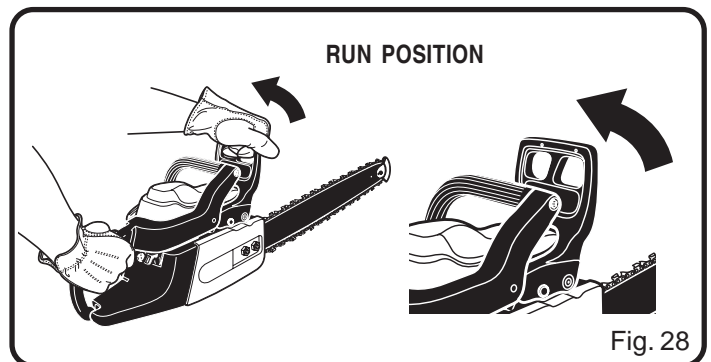

Fig. 28
3. Reset the chain brake back into the RUN position by grasping the right-hand side (from operator’s position) of the chain brake lever/hand guard and pull towards the front handle until you hear a click. See *Figure 28*.